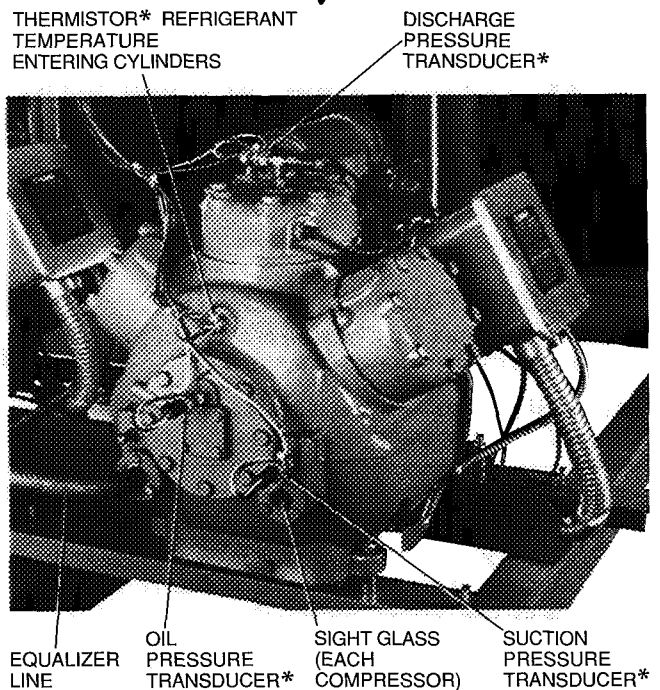

Fig. 9 – Lead Compressor Transducer and Thermistor Locations
6. Oil should be visible in the compressor sight glasses. See Fig. 9. An acceptable oil level in the compressor is from 1/8 to 3/8 of sight glass. Adjust the oil level as re-